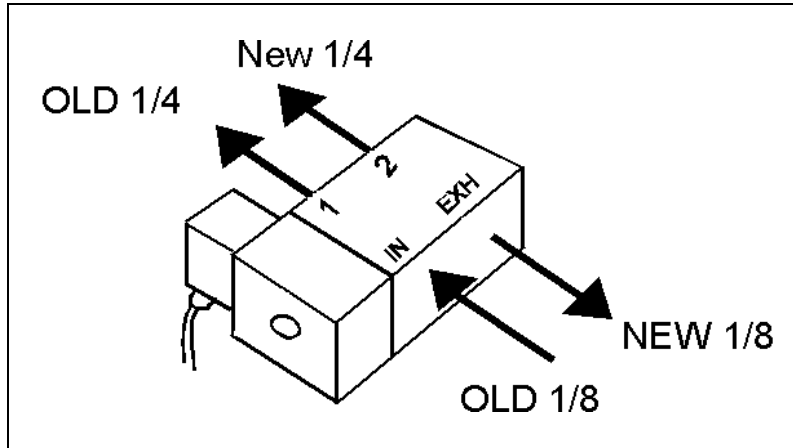

FIGURE 4: NEW LATCH ACTUATING VALVE
8. Connect (1/8"dia) tube to "IN", new (1/8"dia) tube to "EXH", old (1/4"dia) tube on "1" and new (1/4"dia) tube on "2" as shown in figure 4.